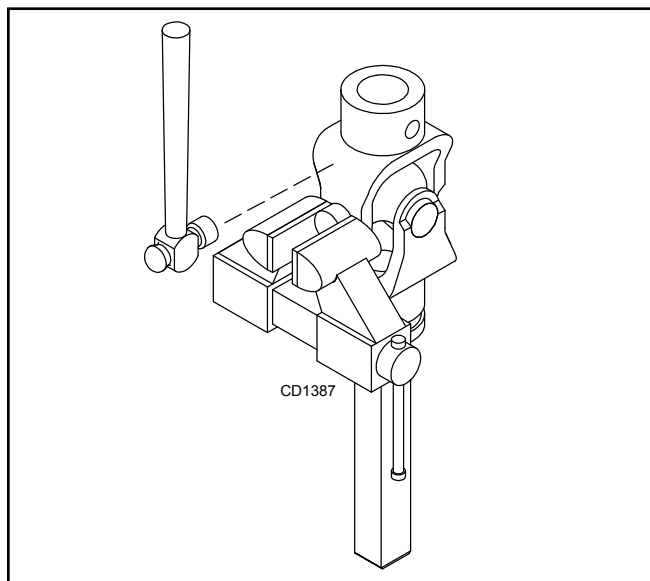

Figure 26. Remove Bearing Cups
3. Clamp cup in vise as shown in Figure 26 and tap on yoke to completely remove cup from yoke. Repeat Step 2 & Step 3 for opposite cup.